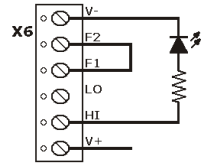

Figure 2
- 3) Connect a wire between **F1** and **F2**. If something is not connected to the **HI** output, connect an LED with a current limiting resistor. See Figure 2.